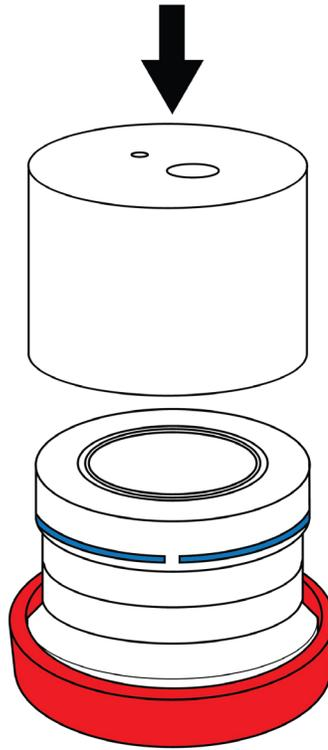

Figure 17 Place auger guide
3. Place the auger guide on top of the blue-marked part of the adapter for augering the holes for the tensiometer shafts (Figure 17).